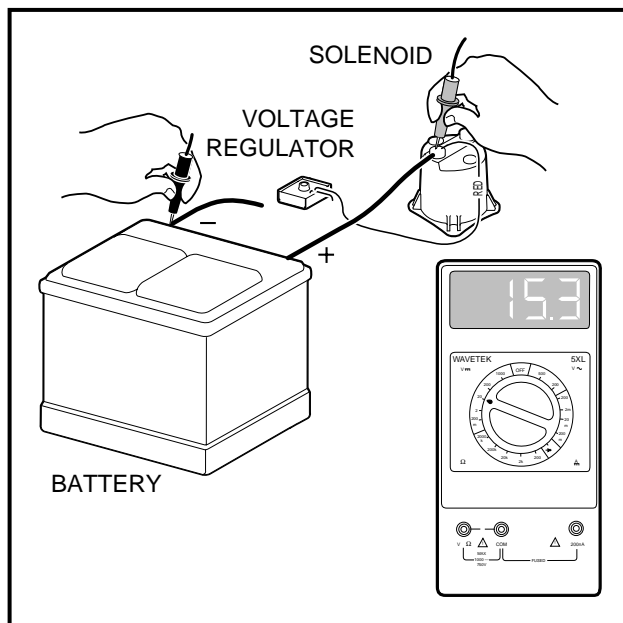

Figure 11-37 Test Voltage Regulator
5. Turn the key switch to the OFF position, killing the engine. Using a multimeter set to 20 volts DC, place the red (+) probe on the large post of the solenoid with the red wire from the voltage regulator attached. Place the black (-) probe on the negative (-) battery post (**Figure 11-37, Page 11-32**). With the Forward/Reverse handle in the NEUTRAL position and the wheels chocked, turn the key switch to the START position to start the engine. Depress the accelerator to run the engine at full governed speed. If the reading is between 14.7 and 15.3 volts, the regulator is good. If the reading is lower than 14.7 volts but rising steadily, check battery condition. **See Hydrometer Test on page 11-21.** If the reading is lower than 14.7 volts and not rising, and the starter/generator is good; or if the reading is over 15.3 volts and continues to rise, replace voltage regulator. **See Voltage Regulator Removal, Section 12, Page 12-13.**